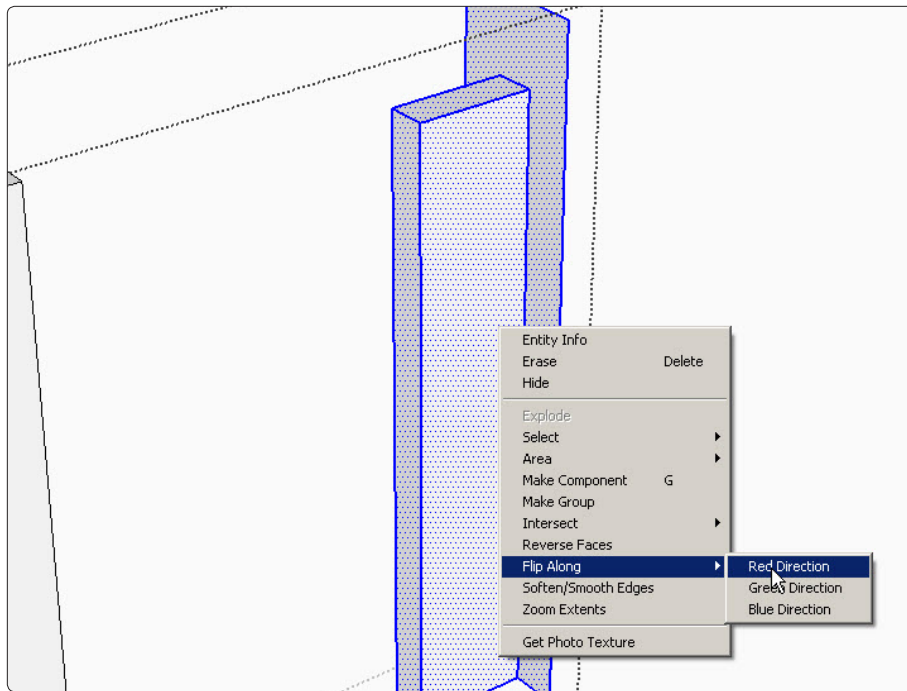
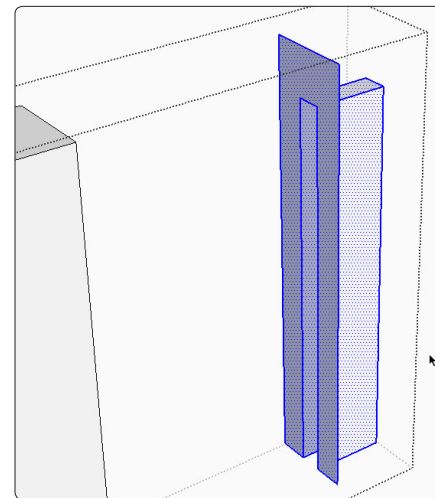

Figure 9. The pop-up menus that lead you to the *Flip Along* function, which lets you mirror a copy so that it is oriented properly in the model.
Figure 10. The tenon once it has been flipped along its red direction.
Step 6 Now you have to orient the copied tenon properly. As shown in Figure 9, right-click on the copied tenon. Choose *Flip Along* from the pop-up menu. This will open a second menu, listing the three axis directions. Click on *Red Direction*. This will immediately flip the tenon copy to its proper orientation, as shown in Figure 10.
to the duplicated face of the skirt end that accompanied the tenon. SketchUp automatically eliminates duplicate faces. You may need to fill in a missing face, however. See Figure 10.